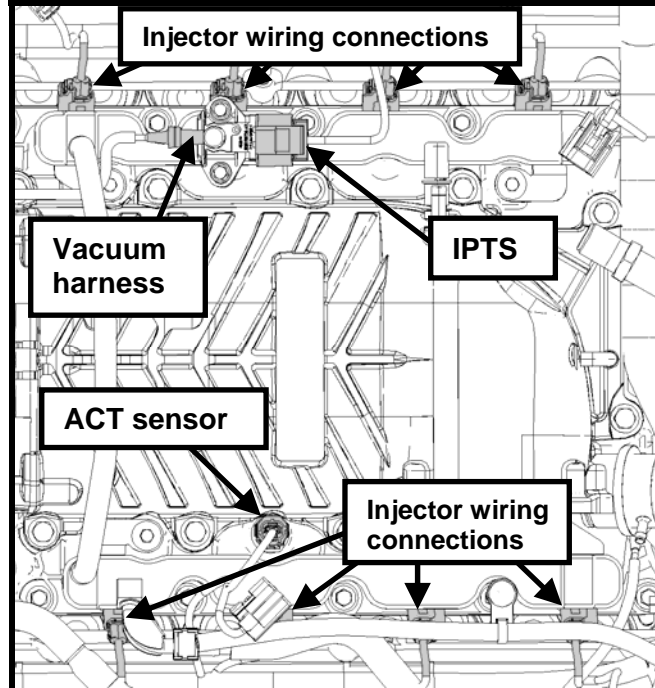

Fig. 18
**STEP 3:** Connect fuel injector wiring harnesses, fuel pressure regulator (IPTs) electrical harness, vacuum harness and ACT wiring connector (See Fig. 18).